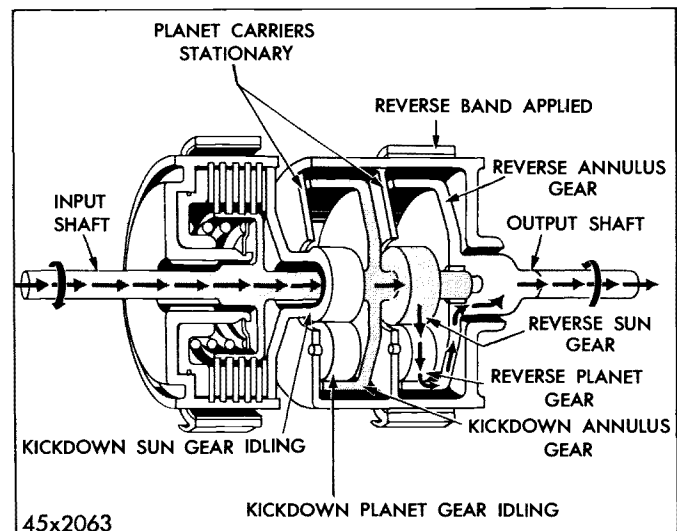

Figure 42—PowerFlow in Transmission (Reverse)
REVERSE—When the panel control is placed in Reverse (R) position, the reverse band is applied, locking the kickdown and reverse planet carriers stationary. See Figure 42. The direct clutch and kickdown band are disengaged. The power flow is through the input shaft to the reverse sun gear. Since the reverse planet carrier is held stationary, the reverse annulus gear and output shaft are driven by the reverse planet gears in a reverse direction at a reduced speed. The transmission gear ratio in reverse is 2.39 to 1.